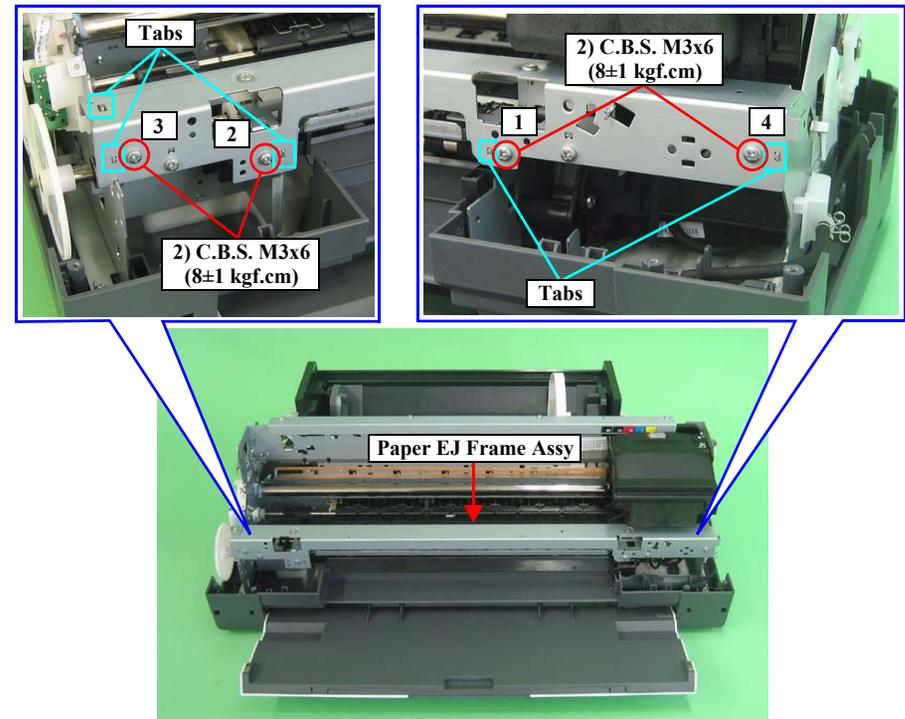

Figure 3-106. Screws that Secure the Paper EJ Frame Assy
See Figure 3-106 \(p.80\)
- Tighten the screws in the order shown in Figure 3-106